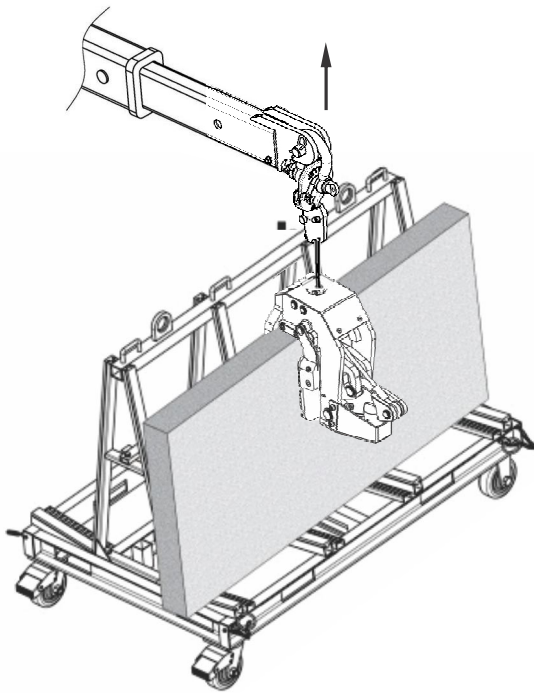

Figure 2b
- Lower the forklift boom to allow the slab fully inserted into the opening of the clamp. The automatic locking latch should engaged and the clamp will clamp on the slab securely (figure 2b).